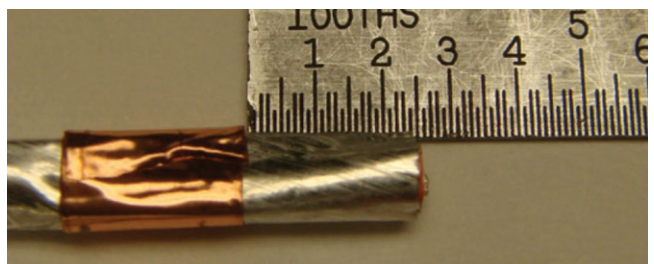

Figure 13: Wrapping the pair
6. Cut a 0.5-inch piece of copper or polyimide tape for each pair of the cable. Wrap a piece around each pair 0.25 inch from the end of the cable (Figure 13).